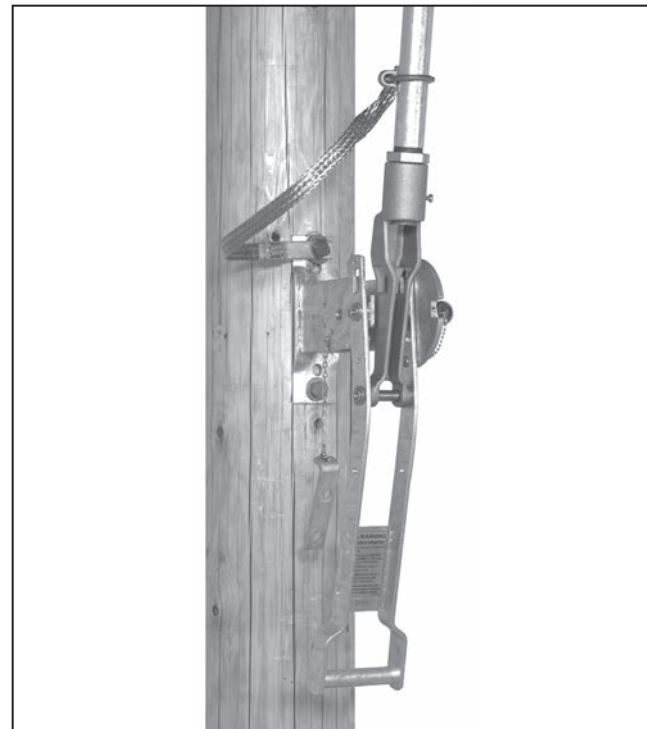

Figure 17. Attaching the grounding strap.
STEP 16. Fasten the free end of the grounding strap to the lowest vertical operating-pipe section a few inches above the operating handle assembly with the U-bolt connector provided for this purpose. See Figure 17. Then, connect the lower end of the strap to a suitable earth ground, using the grounding connector provided at that end of the strap.●